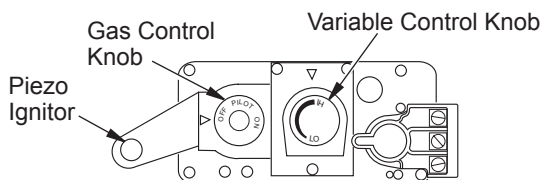

Figure 45 - Control Valve
7. Turn gas control knob counterclockwise ↺ to "PILOT" (see Figure 45).
8. Push in gas control knob all the way and hold. Immediately light the pilot by repeatedly depressing the piezo spark ignitor until a flame appears. Continue to hold for about one (1) minute after the pilot is lit. Release gas control knob and it will pop back. Pilot should remain lit. If it goes out, repeat steps 5 through 8.